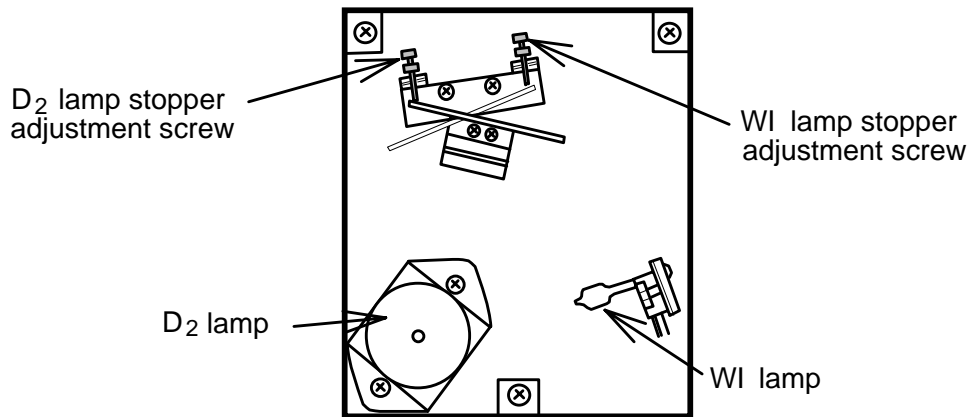
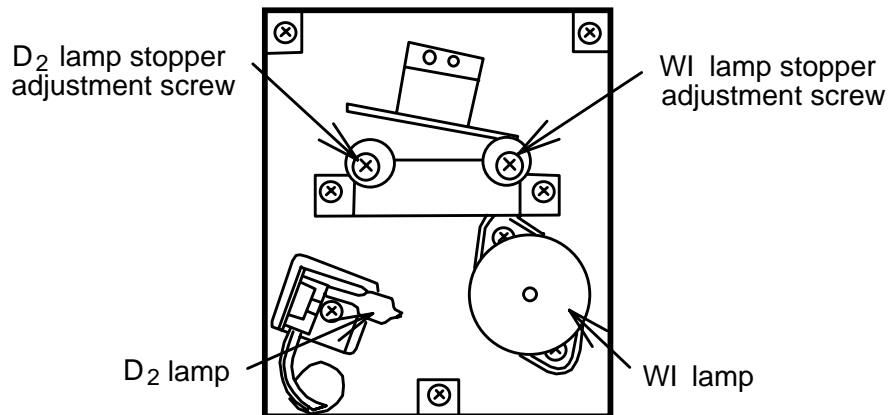

Fig. 4.9 Light source unit (V-530)
Fig. 4.10 Light source unit (V-550/560/570)
- (2) Pull out the Halogen lamp from the socket (Fig. 4.9 or Fig. 4.10).
- (3) Insert a new Halogen lamp into the socket.
- (4) For the DS type, adjust the light source mirror as described in Section 4.5.2.2.
- (2) Pull out the Deuterium lamp from the socket (Fig. 4.9 or Fig. 4.10).
- (3) Insert a new deuterium lamp into the socket.
- (4) For the DS type, adjust the light source mirror as described in Section 4.5.2.2. With the iRM type, adjust the light source mirror as described in Section 4.5.2.3.
- (3) Turn the WI lamp stopper adjustment screw (Fig 4.9 or Fig, 4.10) and search for a position where the data value (value displayed on the CRT) is maximum.
- (4) Replace the inner lid and outer lid of the light source unit.
- (3) Turn the D₂ lamp stopper adjustment screw (Fig 4.9 or Fig, 4.10) and search for a position where the data value (value displayed on the CRT) is maximum.
- (5) Return to the single beam measurement screen and set the wavelength to 500 nm using the [Goto WL] key on the operation panel.
- (6) Turn the W1 lamp stopper adjustment screw (Fig 4.9 or Fig, 4.10) and search for a position where the data value (value displayed on the CRT) is maximum.
- (7) Replace the inner lid and outer lid of the light source unit.
- (5) Return to the single beam measurement screen and set the wavelength to 250 nm using the [Goto WL] key on the operation panel.
- (6) Turn the D₂ lamp stopper adjustment screw (Fig 4.9 or Fig, 4.10) and search for a position where the data value (value displayed on the CRT) is maximum.